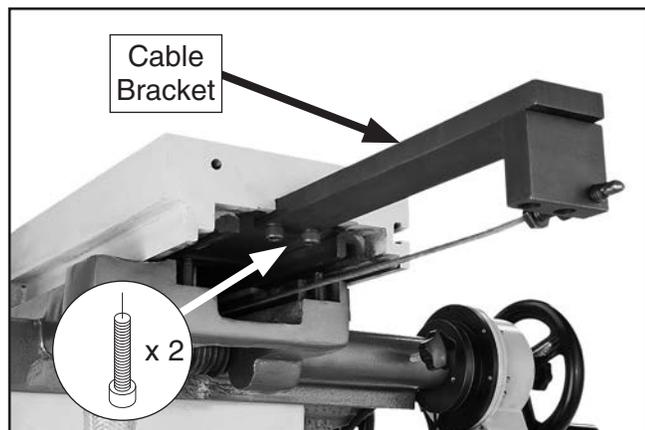

Figure 20. Cable bracket installed.
- Secure table cable bracket underneath left end of table with (2) M10-1.5 x 25 cap screws, as shown in **Figure 20**.